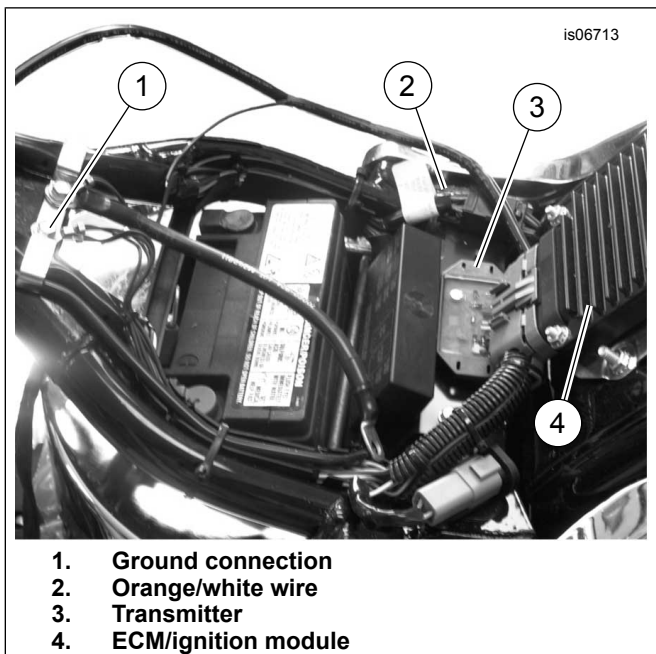

Figure 7. Transmitter Mounting, Deuce
3. See Figure 7. Mount the transmitter to the surface below the ECM/ignition module. Route the transmitter wires forward along the right side of the frame.